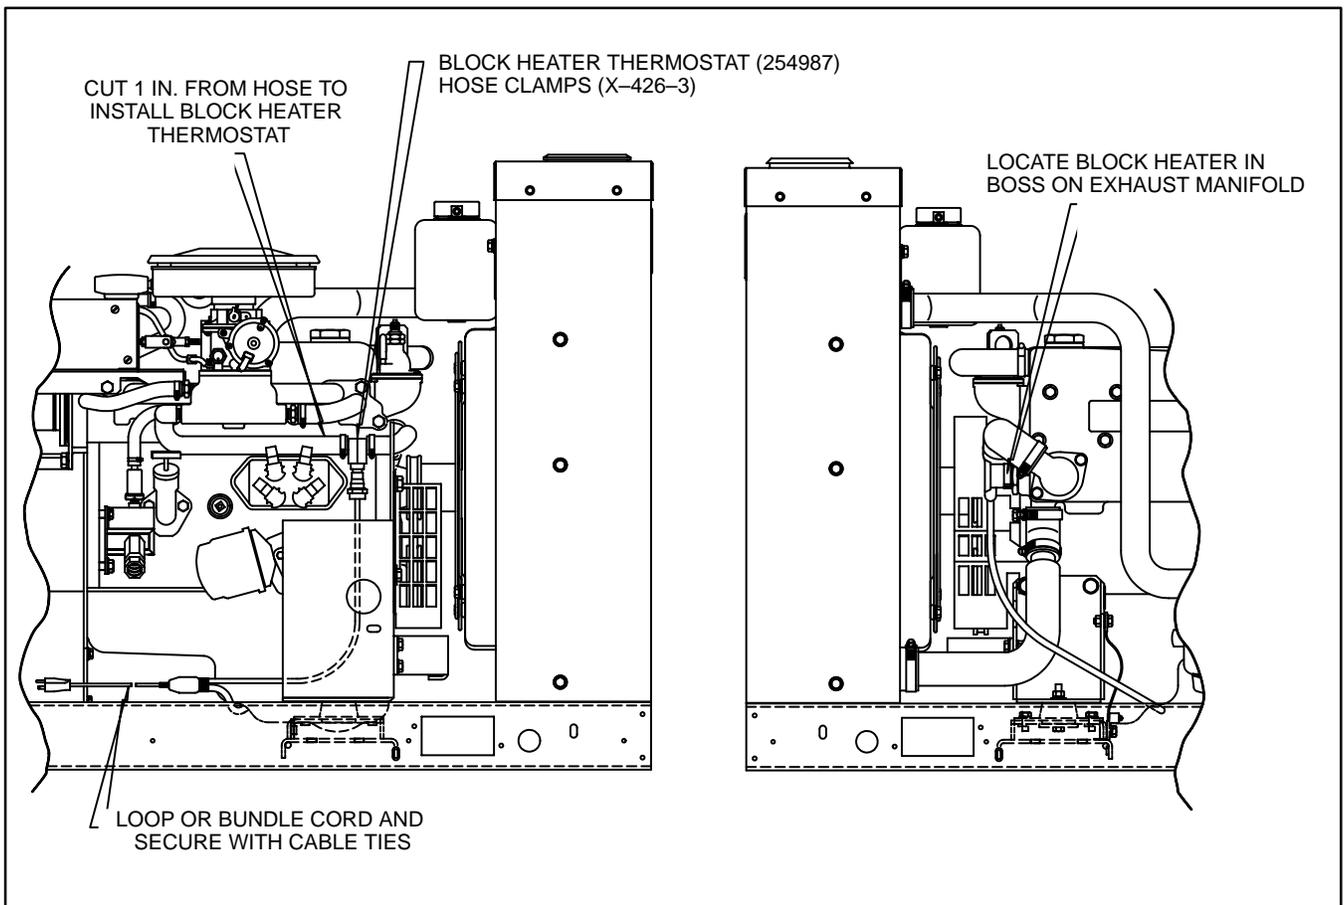

Figure 3. Block Heater Kit Installation
10. Use a utility knife to remove a 1 in. (25.4 mm) portion from the coolant hose between water pump and intake manifold. See Figure 3.
11. Insert block heater thermostat housing (254987) in cut hose and secure with two hose clamps (X-426-3). Thermostat should be positioned with cord hanging down as shown in Figure 3.
12. Route heat element cord beneath engine as shown in Figure 3.
13. Apply pipe sealant (Loctite 567) to threads of block heater. Install block heater heat element in boss on radiator end exhaust manifold. See Figure 3. Use a wrench to tighten heat element until snug. **DO NOT OVERTIGHTEN.**